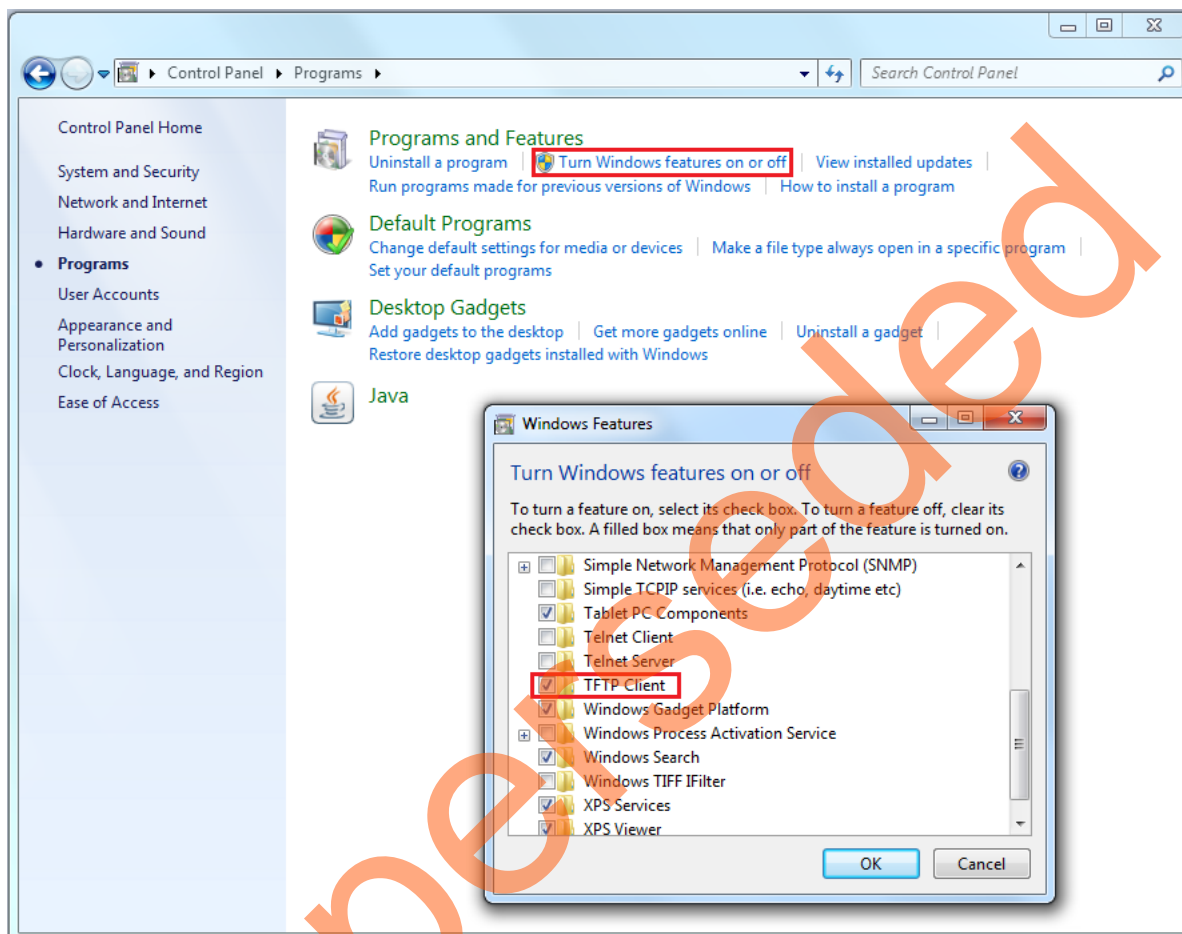

Figure 23 • Enabling TFTP Client in Host PC
1. To enable the TFTP client in host PC, navigate to **Control Panel > Programs**. Click **Turn Windows Features On or Off** and select the TFTP client in **Windows Features** as shown in Figure 23.